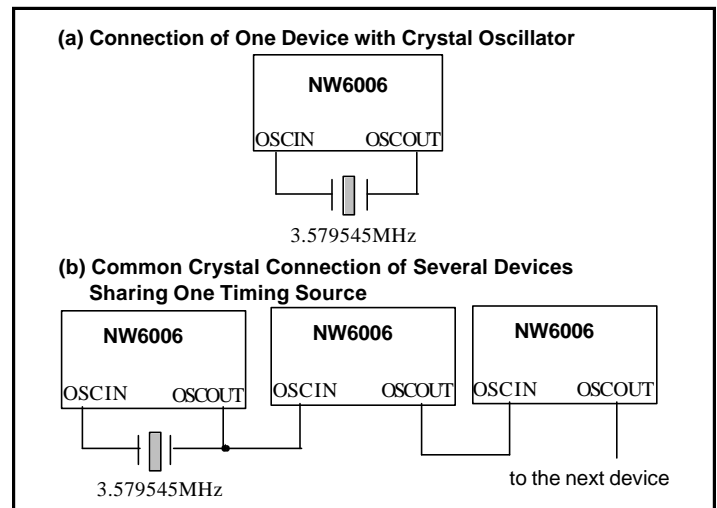

Figure 8. Application of Clock Driven Circuit
A 3.579545 MHz crystal oscillator or other external clock source is required for NW6005. The crystal can be directly connected between OSCIN and OSCOUT pins without any external component. If an external clock source is used, OSCIN pin should be driven by the clock source and OSCOUT pin is left floating or is used to drive other devices. Fig. 8 shows some applications.
- 2) By choosing $t_{GA}=15\text{ ms}$, t_{ABS} will be 15-25 ms (refer to Fig. 8). Current wetting pulse and AC/DC load should be applied right after the $\overline{\text{STD}}$ rising edge.